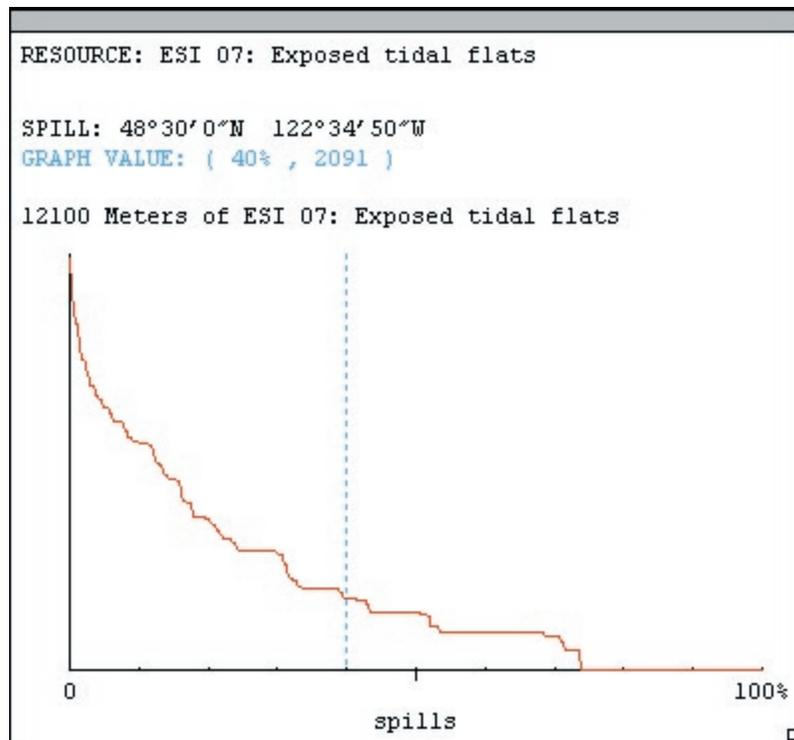

Figure 41. Resource Analysis graph showing 40% of spill impacted 2091 meters of Exposed tidal flats.
- 9 Click within the graph window at the 40 percent mark. See figure 41.